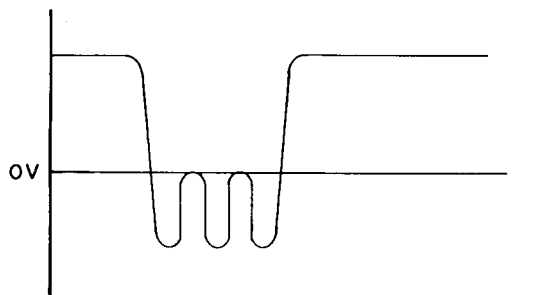

Fig. 8
- 6) Press PLAY switch and adjust SF403 so that waveform on oscilloscope becomes fig. 8.